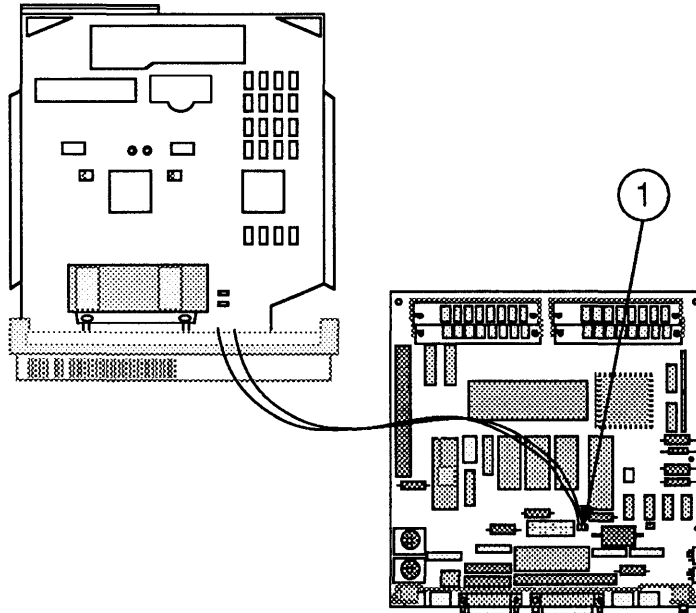

FIGURE 19
2. Reconnect the speaker cable (Figure 19, #1) to the main logic board.